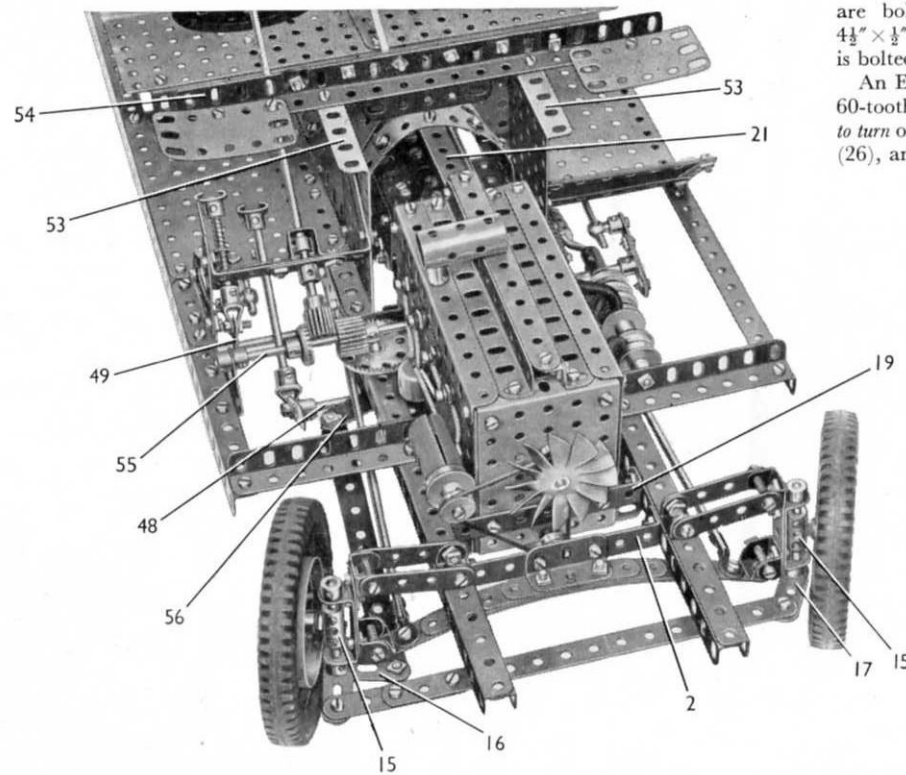
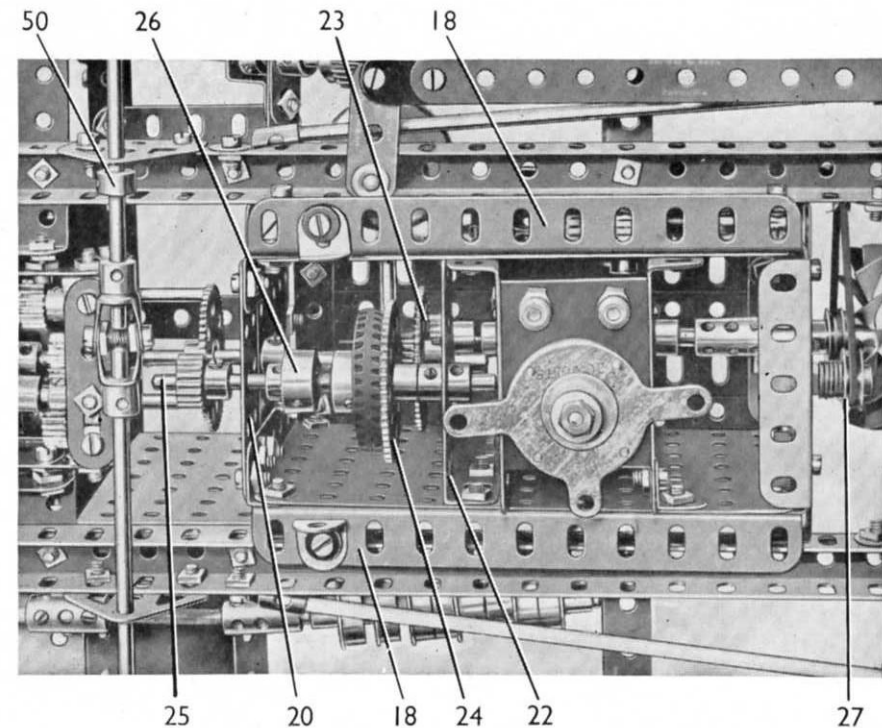

FIG. 4 A front view of the chassis showing the steering mechanism in detail
FIG. 5 The engine unit seen from below
Flat Girder is bolted, and to this is fixed a  $9\frac{1}{2}$ " Angle Girder (1). The chassis members are connected by a  $3\frac{1}{2} \times \frac{1}{2}$ " Double Angle Strip (2) (Fig. 4), and a  $3\frac{1}{2}$ " Angle Girder (3) fixed to Angle Brackets. They are joined also by a  $7\frac{1}{2}$ " Angle Girder (4) braced by  $1\frac{1}{2}$ " Corner Brackets. The Girder (3) is braced to the channel girders by two 3" Angle Girders.
### Construction of the Front Axle (Fig. 4)
#### The Engine Unit (Figs. 4, 5 and 6)
Each side of the engine unit (Figs. 4 and 6) is a  $5\frac{1}{2}$ "  $\times$   $3\frac{1}{2}$ " Flat Plate fitted at each end with a  $3\frac{1}{2}$ " Angle Girder, at the top with a  $5\frac{1}{2}$ " Angle Girder, and at its lower edge with a  $5\frac{1}{2}$ " Angle Girder (18) (Fig. 5). The sides are connected at the front by a  $3\frac{1}{2}$ "  $\times$   $2\frac{1}{2}$ " Flanged Plate, to which a  $3\frac{1}{2}$ "  $\times$   $\frac{1}{2}$ " Double Angle Strip (19) is bolted, and at the rear are joined by a  $2\frac{1}{2}$ "  $\times$   $2\frac{1}{2}$ " Flat Plate, a  $3\frac{1}{2}$ "  $\times$   $\frac{1}{2}$ " Double Angle Strip and a  $2\frac{1}{2}$ " Strip (20). At the top of the unit two  $5\frac{1}{2}$ " Angle Girders
The dynamo is a Sleeve Piece fitted at one end with a Chimney Adapter and at the other with a  $\frac{3}{4}$ " Flanged Wheel. A  $\frac{1}{2}$ " loose Pulley is free to turn on a  $\frac{1}{2}$ " Bolt gripped in the Flanged Wheel, and the Sleeve Piece is spaced from the engine unit by a nut on the bolt that holds it in place. A  $\frac{1}{2}$ " loose Pulley (27) (Fig. 5), is free to turn on a Pivot Bolt. The three  $\frac{1}{2}$ " Pulleys are connected by a Driving Band.
A  $\frac{1}{2}''$  diameter  $\frac{1}{2}''$  face Pinion on the lower end of the steering column engages a  $\frac{3}{4}''$  Contrate on a  $5''$  Rod (55) (Fig. 4). This Rod is supported in one side of the engine unit and in a Trunnion fixed to one of the Girders (9). A  $\frac{3}{4}''$  diameter  $\frac{1}{2}''$  face Pinion on Rod (55) meshes with a  $1\frac{1}{2}''$  Contrate on a vertical  $1\frac{1}{2}''$  Rod. The  $1\frac{1}{2}''$  Rod is passed through one of the chassis members and is held in place by a Collar. A Crank (56) is fixed on the lower end of the  $1\frac{1}{2}''$  Rod, and to it is lock-nutted a Fishplate. The Fishplate is bolted to a  $5\frac{1}{2}''$  Strip lock-nutted to the Bell Crank (16).